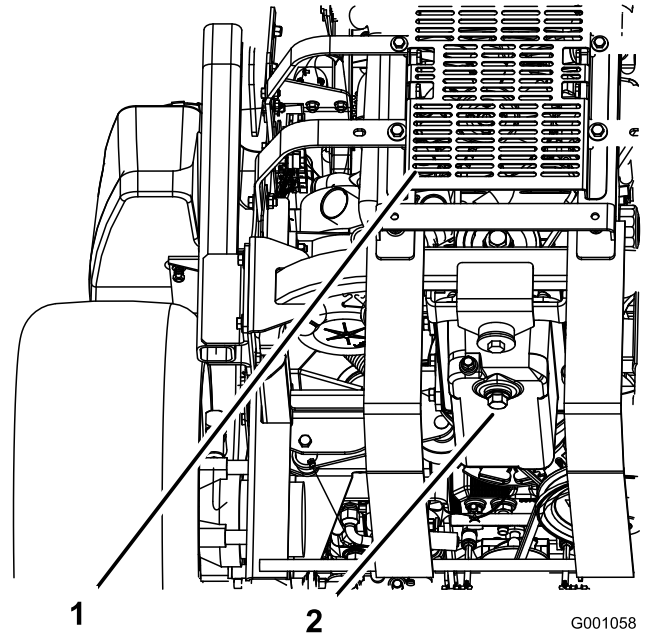

Figure 38
5. Place a pan below the oil drain. Remove the drain plug and let the oil drain completely (Figure 38).